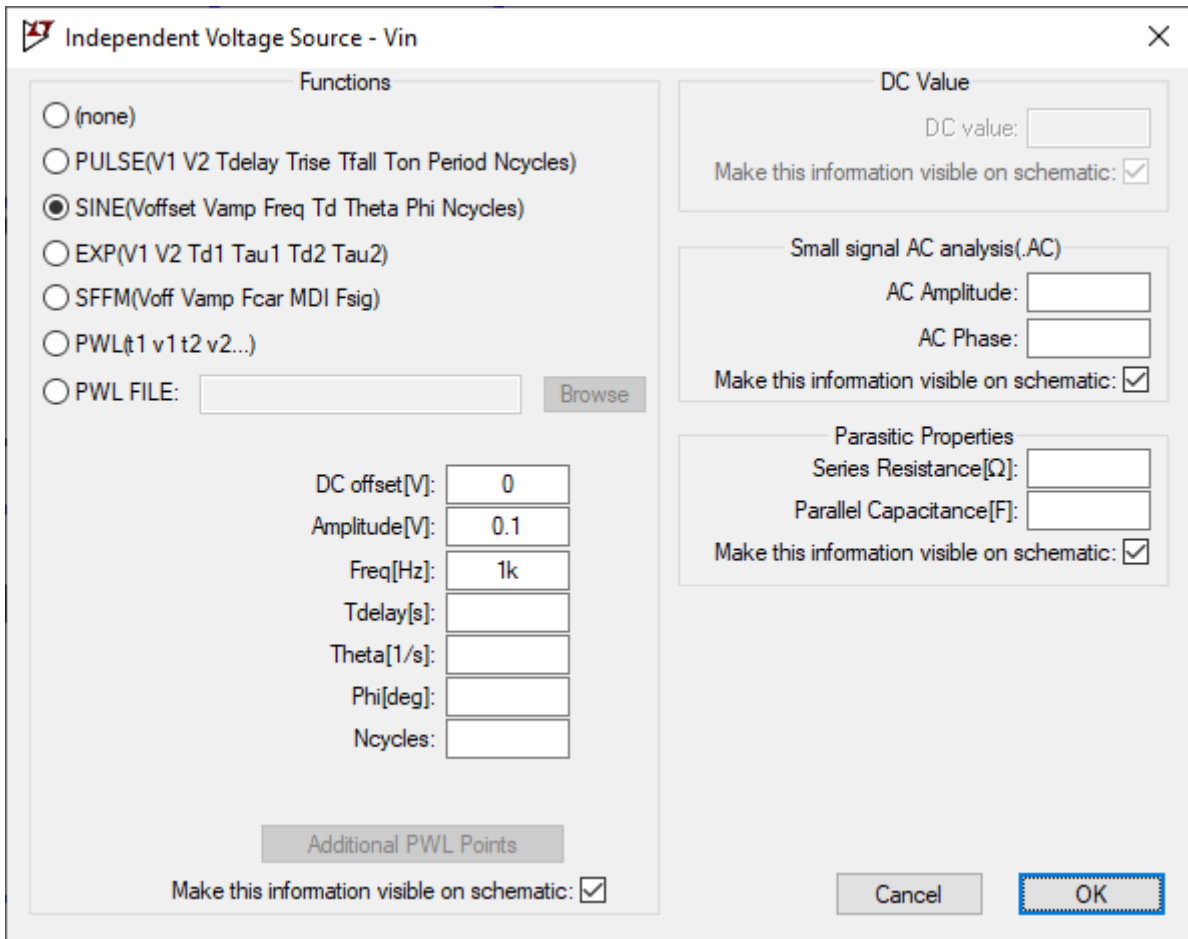

Fig. 4. JFET Common Source Amplifier
5. Set the input voltage signal (V_{in}) parameters in accordance with the specifications mentioned in Fig. 4: